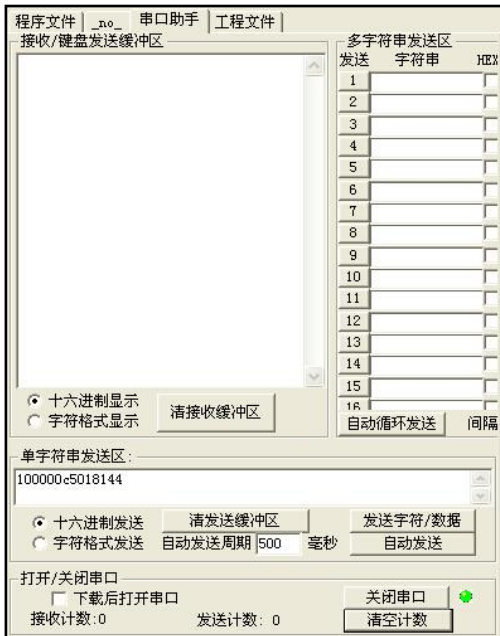
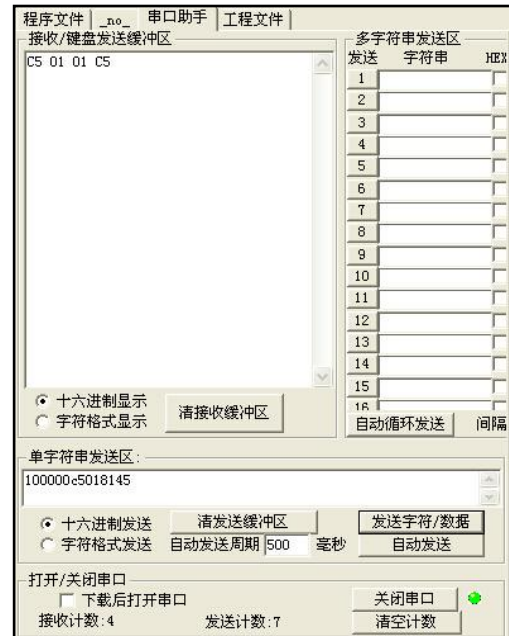

figure3.1.3
figure3.1.4
- (4) Open the computer serial assistant, query the current status of the Bluetooth module instruction, as shown in Figure 3.1.3, you can see the Bluetooth module return the current state of the instruction, as shown in figure 3.1.4.